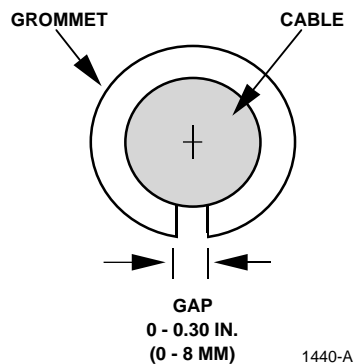

Figure 15. Grommet Selection
3. Two rubber yokes and either three or four grommets (depending on the kit) are provided with the cable clamp kit for securing the cable to the module. Select a grommet that, when placed around the cable as shown in Figure 15, results in a gap of approximately zero to 0.030 inches (8 mm), as shown.